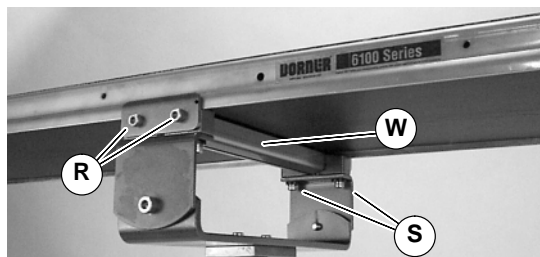

Figure 18
4. Install assembly (W of Figure 18) on bottom of conveyor. Align assembly perpendicular to conveyor or frame. Tighten bracket screws (R) to 80 in-lb (9 Nm).